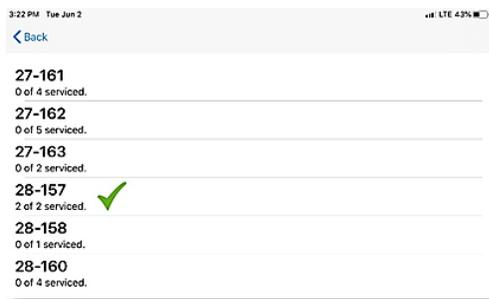

Figure 29. Grid sections (STRs) within selected TrapBook
**D** Tap here to access all grid sections (STRs) contained within the selected TrapBook. (Figure 29)